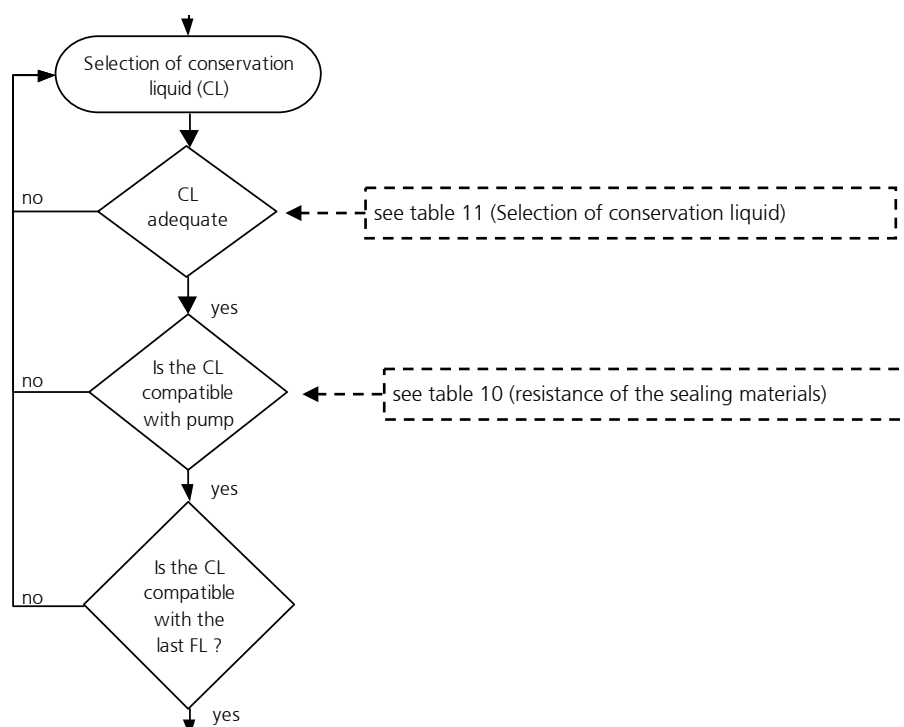

figure 16
By proceeding as shown in the diagram (see figure 16) you may prepare the pump for a longer standstill.
*Remark:* This diagram is repeated as a part of the figure 16 »Shutdown procedure«.